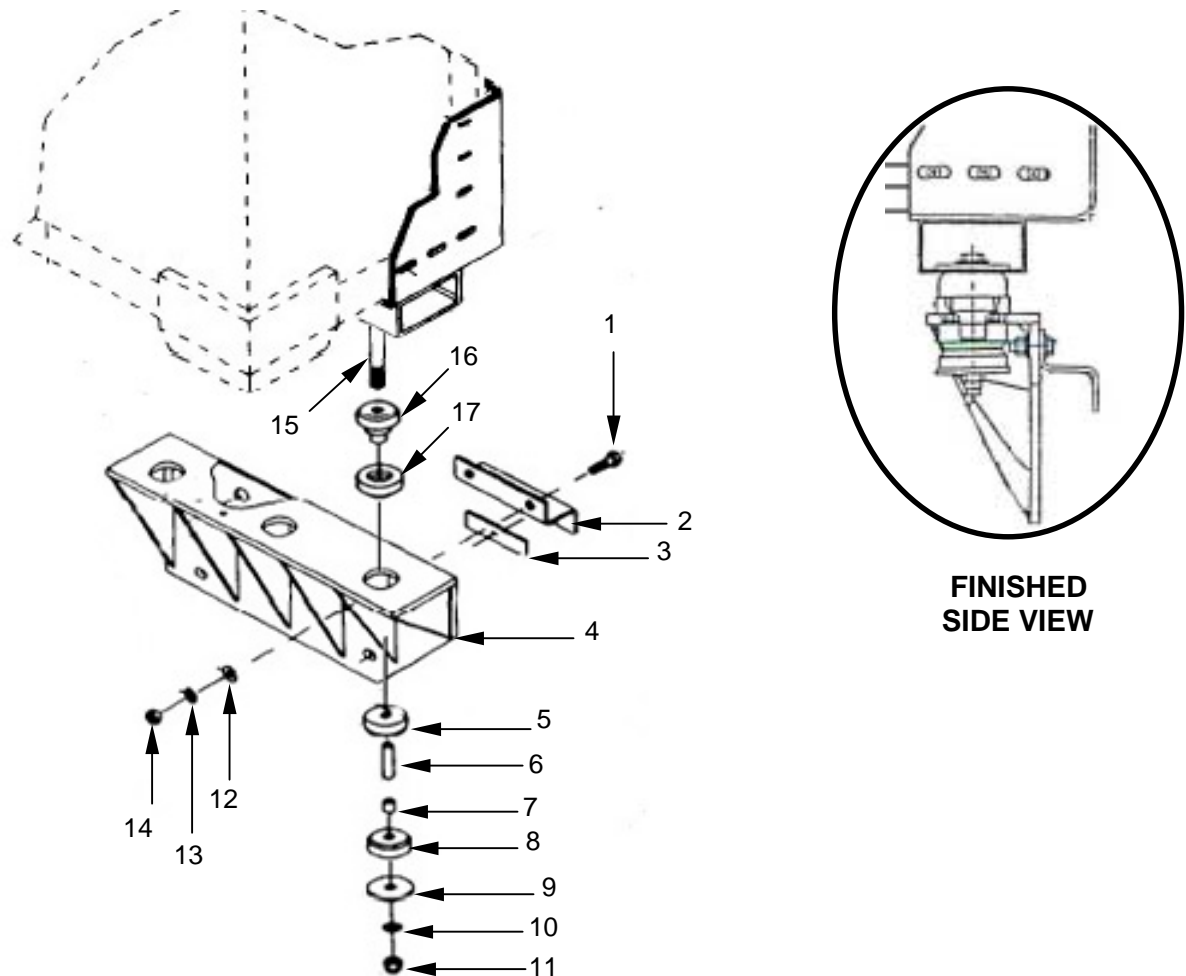

Figure 4-15. Attach Rear Mounting Bracket (Lower)
(3) Attach rear mounting bracket (lower) as follows:
(a) Secure clamping bracket ((2)-Figure 4-15 next page) and shim (3) to lower section of rear mounting bracket (4) using screw (1), flat washer (12), lock washer (13), and nut (14).